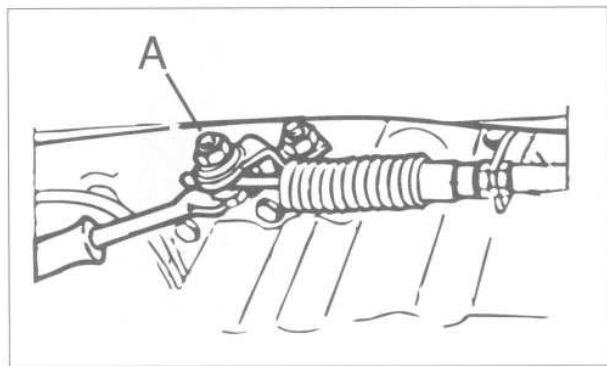

Fig. 6. Selector lever cable clamping nut (A). Counterhold clamping bolt when loosening nut.
1. Position selector lever in park (P).
2. Working at left-hand side of transmission, loosen operating cable clamping nut. See Fig. 6.